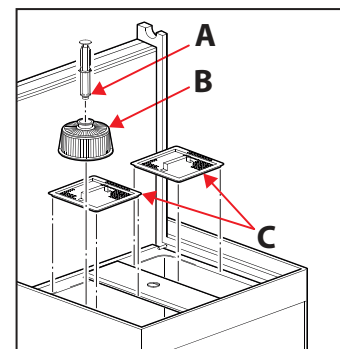

Fig.2
7. To empty the wash tank turn the machine to STAND-BY (1). Remove the strainer plates (C) while being careful not to allow food residue to drop inside the wash tank. Remove the overflow pipe (A) to drain the tank.
8. Firstly, make sure that the water has been drained from the wash tank. Remove any (food) particles from the base of the wash tank and only then remove the plastic filter (B) Fig.2. Clean the strainer plates and the filter with a stiff brush under running water. Make sure that no particles fall into the filter opening.